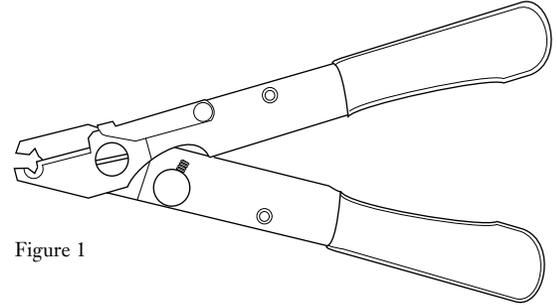

Figure 1
1.1 This procedure describes how to use a Corning Cable Systems fiber stripping tool part number 3205004-01 (Figure 1).